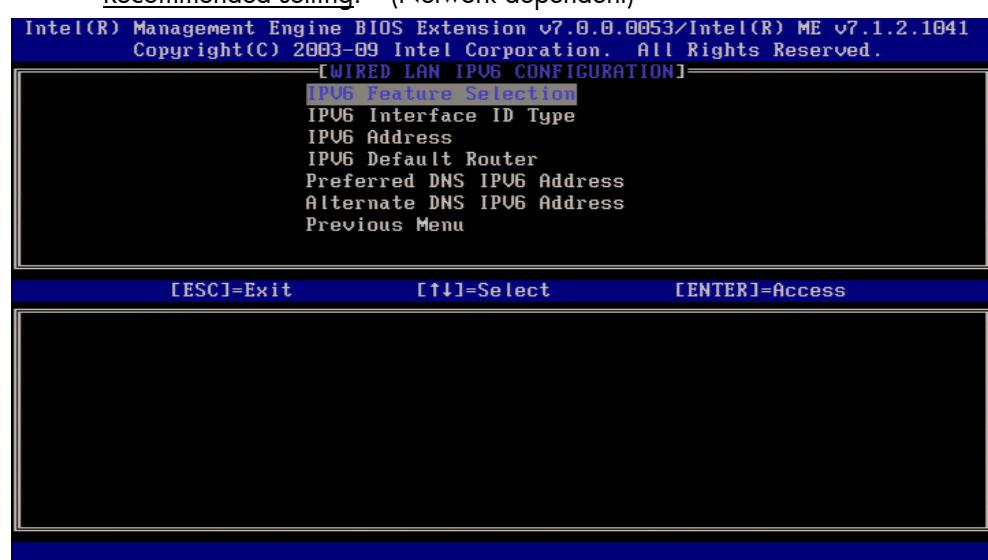

Figure 16. Intel AMT Wired LAN IPV6 Configuration Settings Screen
- g. Wired IPV6 Configuration (Figure 16) .